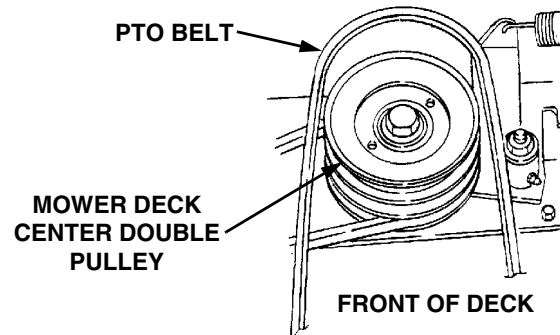

Figure 36
14. Working from the left/rear of the mower deck, install the rearward end of the PTO belt on the upper pulley of the deck center double-pulley (Refer to Figure 36). Ensure that the narrow side of the belt engages the groove of the upper pulley, and that there is no more than a 1/4 twist in the belt between the front pulleys and the double pulley.